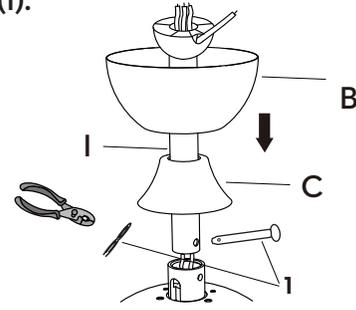

Figure 4
- Remove the split pin and pivot pin (1) from the downrod assembly (I) and set them aside for later restoration.
- Place the downrod assembly (I) through the ceiling canopy (B) and hanger cover (C). (Figure 4).
- Carefully feed the fan wires up through the downrod assembly (I).